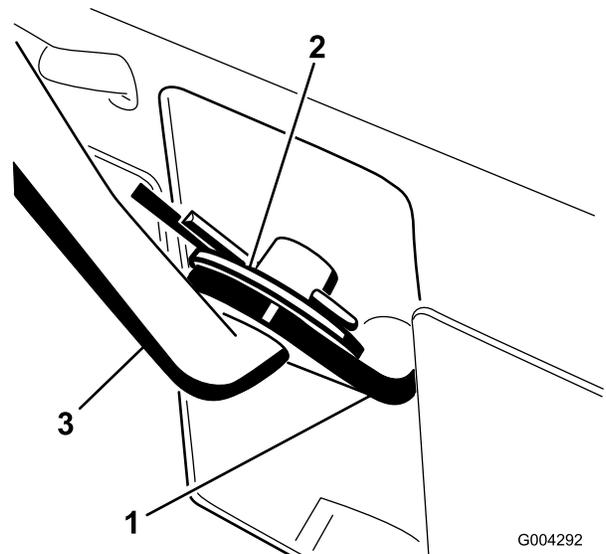

Figure 6
- Pull the speed selector arm (Figure 6) to the most outward position.
3. Install the speed selector rod into the speed selector arm, add a flat washer on the selector rod, and secure it with a cotter pin (Figure 6).